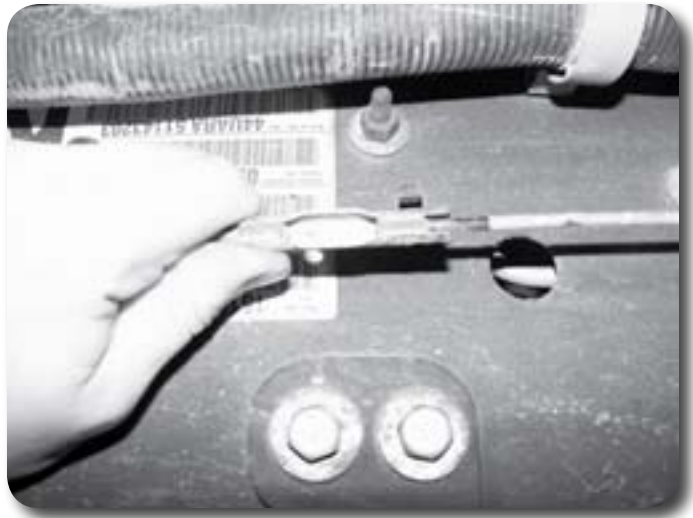

Figure 12
16. Separate the parking brake cable at the coupler just below the driver's side door **Figure 12**. Loosen the parking brake adjuster to gain slack in the cable allowing the front half to be removed from the coupler. Measure the amount of thread on the adjuster for readjustment later. There will either be a tab or dimple retaining the end of the cable in the coupler flatten out the tab or dimple to remove the end.